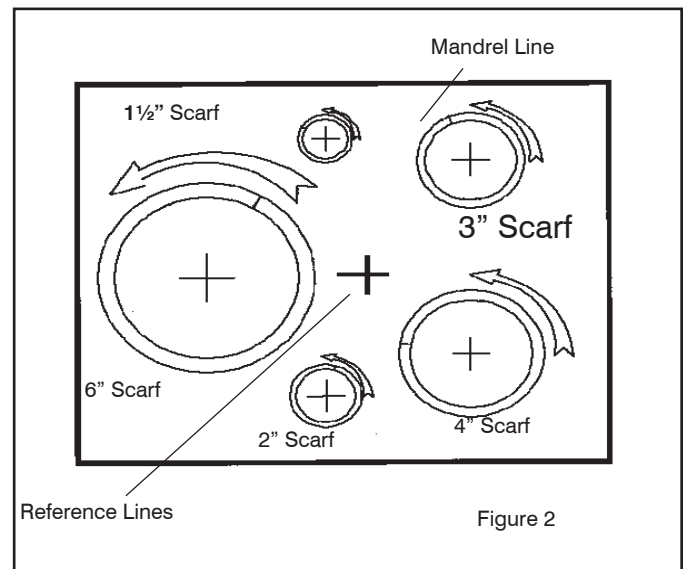

Figure 2
- a. Rotate mandrel line away from reference line to increase thickness, i.e. to make thicker (see Fig. 2).